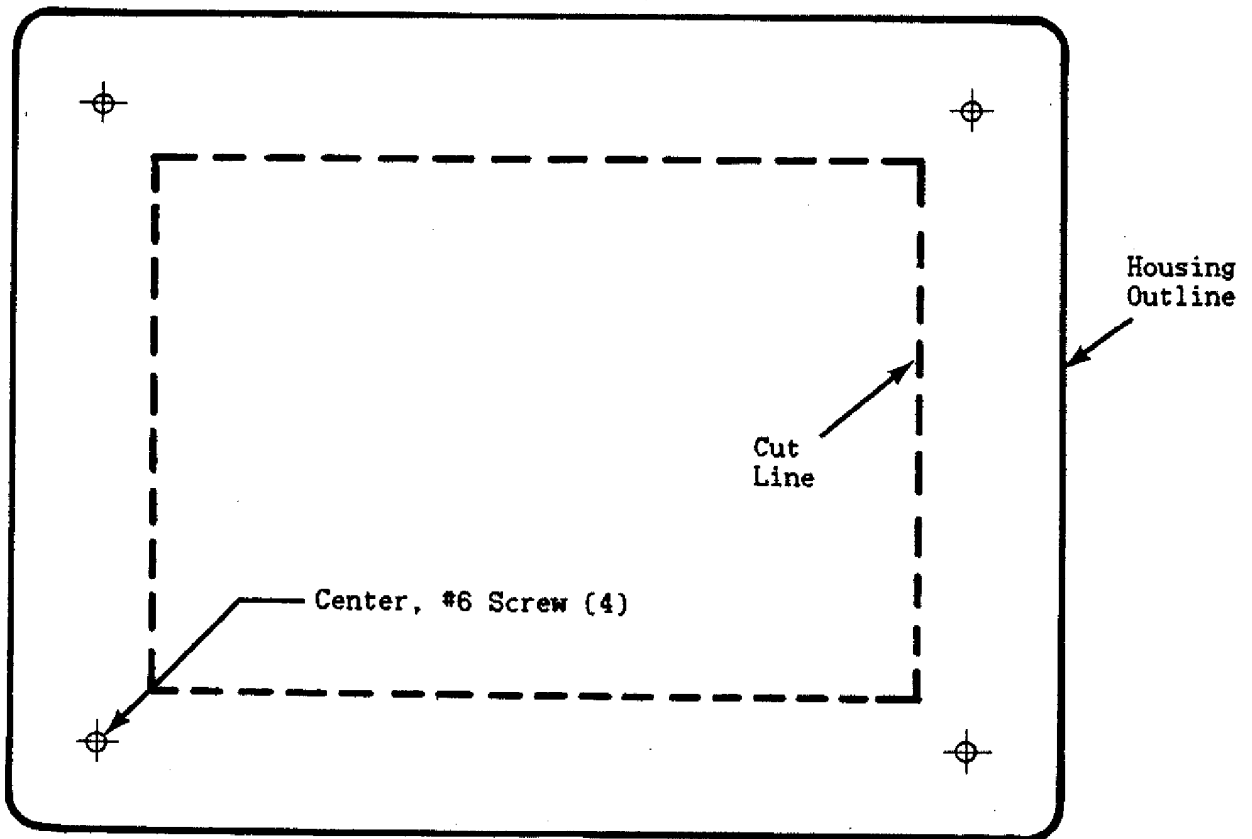

Fig. 3. Mounting Template
1. Using a pencil and the template shown in Fig. 3, mark the wall for the RP-1009L. Carefully remove the "cut-line" area using a keyhole saw. Caution: a poorly-cut hole may show.